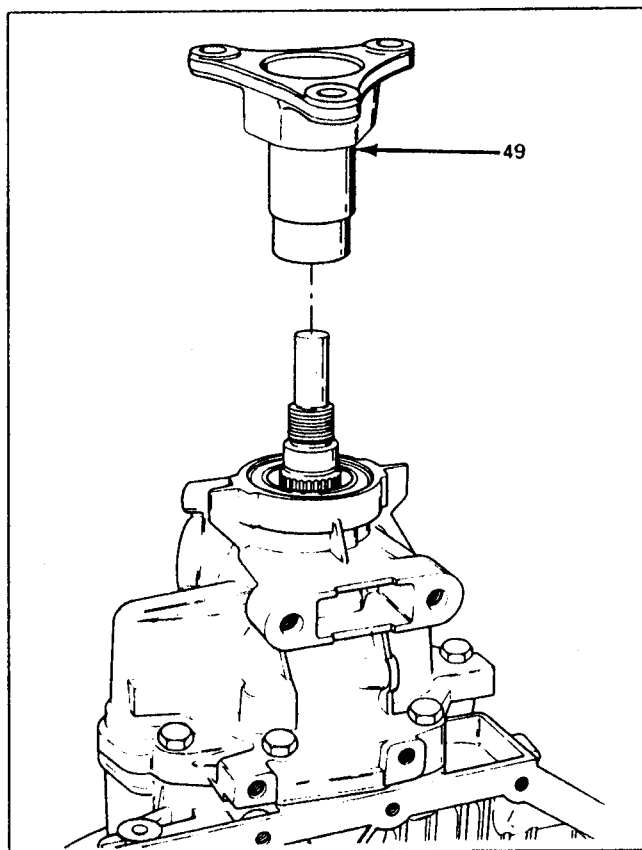

Figure 24
7. Remove the drive flange as shown in Figure 24.